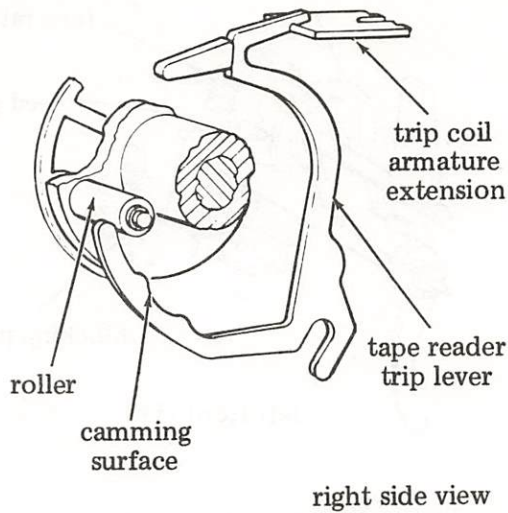

Figure 8 - Tape Reader Trip Lever
- (b) Near the beginning of the stop pulse, a roller on the distributor shaft assembly engages the camming surface on the reader trip lever. This action momentarily causes the reader trip lever to release the tension on the trip coil armature extension (Figure 8).